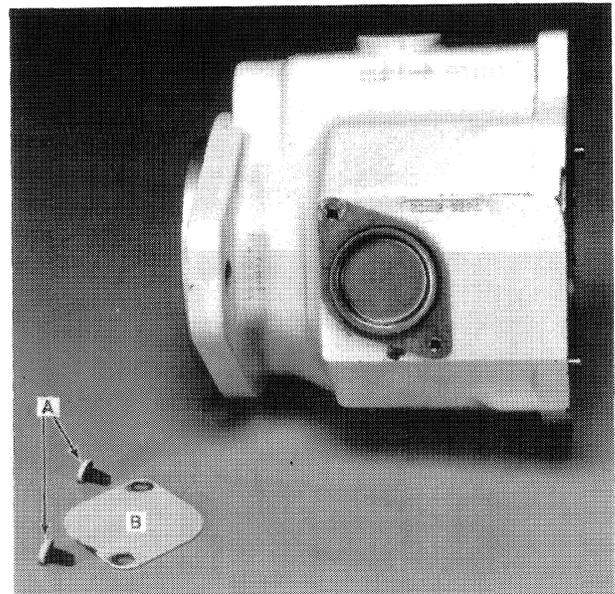

FIGURE 4-8
- a. Remove the torx head screws, A, and cover plate, B, Figure 4-8.